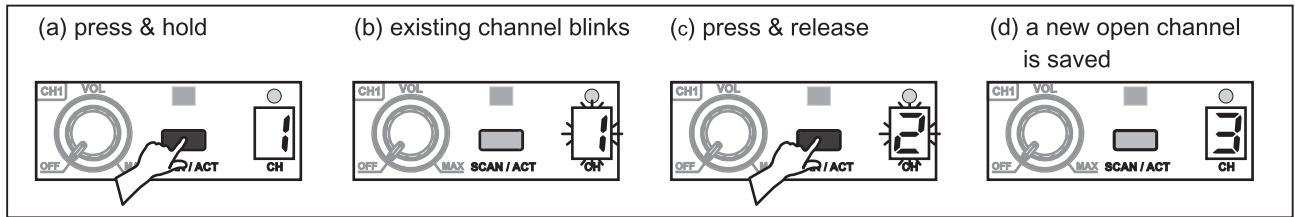

Fig. 4
- (A) Reduce microphone volume levels to minimum. Once powered on, adjust Master Volume Control ㉓ to maximum.
- (B) Power on CH1 VOL ㉜ or CH2 VOL ㉝. CH1 or CH2 Channel Screen ㉞ ㉟ glows.
- (C) Power on CH1 or CH2 transmitter, the RF Indicator ㊱ or ㊲ glows.
- (D) Adjust CH1 VOL ㉜ or CH2 VOL ㉝ to the desired volume levels.
- (E) Wireless microphones and other audio sources are workable simultaneously.
- (F) Both wired and wireless microphone has the echo and voice over music priority functions.
- (G) Do not turn on more than 1 wireless microphone on the same channel. Only one transmitter can be used at a time on that channel. Same wireless microphone can transmit to multiple MA-505 systems on the same channel for a wider and expanded coverage.
- (H) Power off CH1 VOL ㉜ or CH2 VOL ㉝ when the wireless microphone is not used.
- (I) Operating Instructions of Changing Channels
- (1) Scan automatically for a Non-interference Receiver Channel: Press and hold SCAN / ACT Button ㉛ or ㉜ to perform a channel scan. Existing channel blinks to denote it is ready to accept parameter changes. If SCAN / ACT Button is not pressed within ten blinks, it stops blinking and reverts back to the existing channel. During blinking, press and release button to scan and stop for an open channel. This new channel is now saved. Fig. 4.